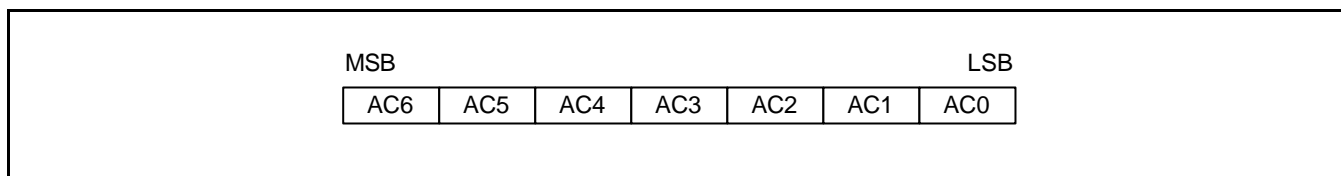

Figure 4. DDRAM Address
DDRAM stores display data of maximum 80 x 8 bits (80 characters). DDRAM address is set in the address counter (AC) as a hexadecimal number. (refer to Figure4.)